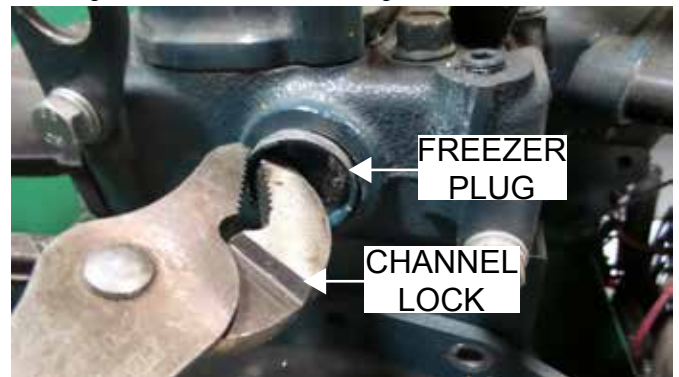

Figure 9. Channel Lock Freeze Plug Removal
4. Using channel locks, remove the freeze plug from the engine block as shown in Figure 9.